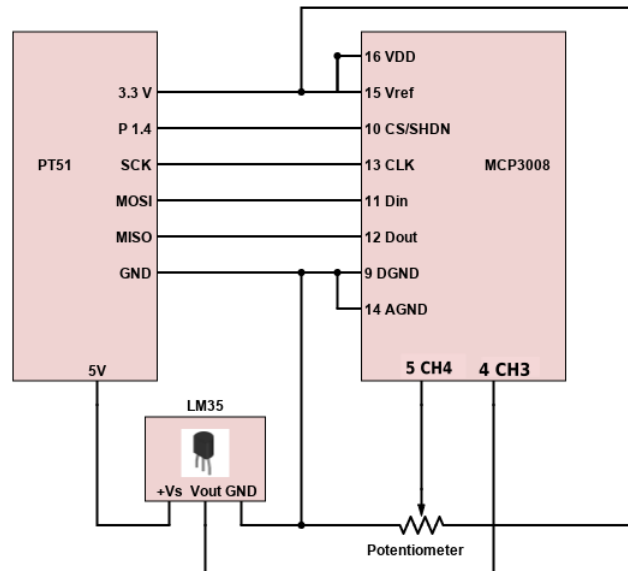

Figure 2: Pt51 interfacing with ADC and temperature sensor.
- iii) Once the ADC setup is verified using the potential divider circuit, it can be used for sensing and displaying the temperature in $^{\circ}\text{C}$. Connect the sensor output to CH3 of the ADC as shown in Fig. 2. This setup measures the voltage output from the sensor and displays the measured room temperature on the LCD. The output provided by the sensor is $10\text{mV}/^{\circ}\text{C}$. Uncomment and update the relevant sections in `main.c`, compile the code and run it on the Pt51 kit. The room temperature will be displayed on the second row of the LCD as shown. Verify that this value matches approximately your room temperature. The first row will continue to display the voltage corresponding to the potential divider circuit's output.